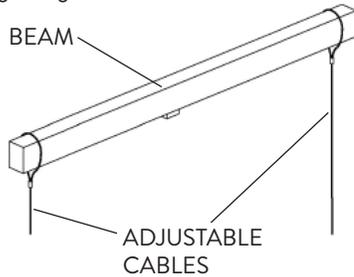

FIG. 3
- 1 The Cable Mount Kit includes Aircraft Cables (2). Wrap the two pieces of Cable around the Ceiling Beam and extend down to the required mounting height (Fig. 3).